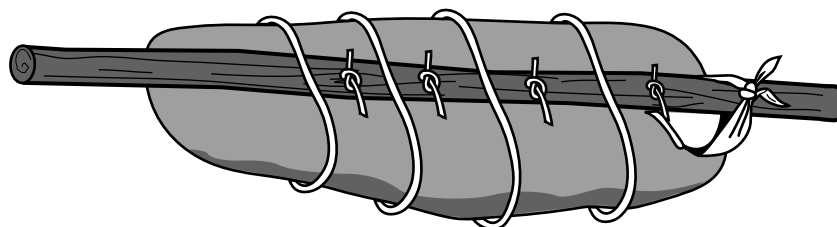

Figure 8-5. Pole Carry.
- The pole is placed along the casualty's length and secured using square knots with two over-hands with the ends of the sling ropes. The square knots should be so tight that the over-hands are tied onto themselves (see Figure 8-5).